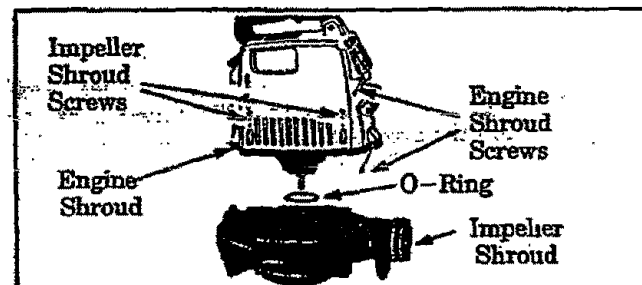
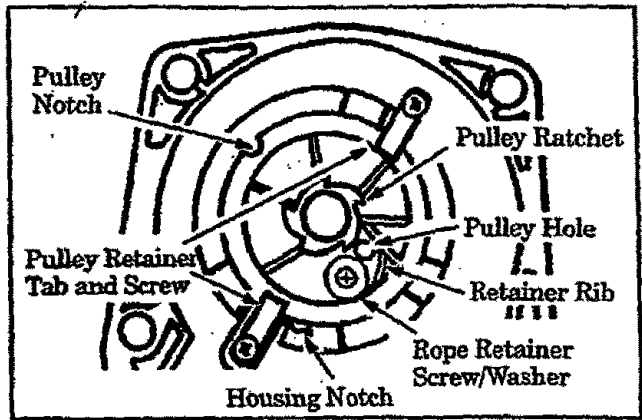

Figure 15
Figure 17
4. Remove the 4 impeller shroud screws. Figure 15. Then, remove the 2 engine shroud screws located by the spark plug. Figure 15. Remove the impeller shroud from the engine shroud.
6. Remove the rope retainer screw from pulley; then, remove the broken piece of rope, if any. Figure 17.
7. Grasp the pulley ratchet and wind the pulley clockwise until the pulley stops. Then, slowly unwind the pulley counterclockwise until the pulley notch is aligned with the pulley housing notch. Figure 17. Insert the hex wrench into the hole formed by the aligned notches. Figure 17.
12. Guide rope inside the pulley, then through Pulley Hole. Figure 17.
14. Install and tighten the Retainer Screw/Washer. Figure 17.
**NOTE:** Do not overtighten the Retainer Screw. Over tightening the screw can cause the screw post to strip out. Tighten the screw until the bottom of the washer either (1) is snug against the rope or (2) contacts the top of the screw post.
**NOTE:** Be sure the rubber O-Ring is installed onto the pulley housing. See Figure 15.